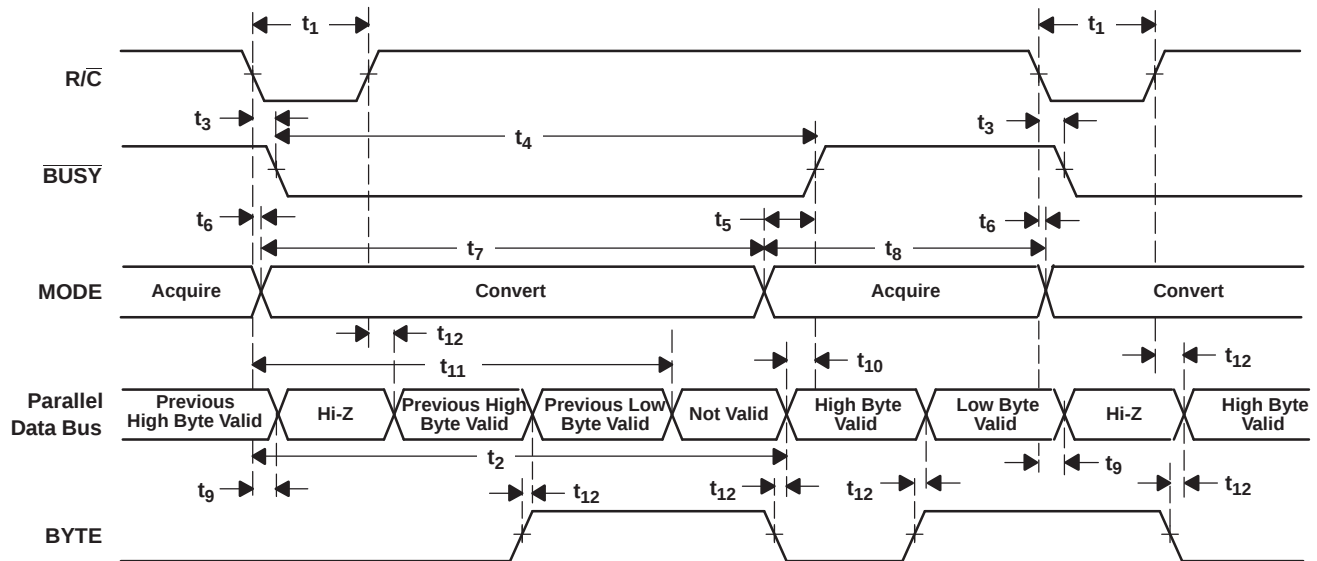
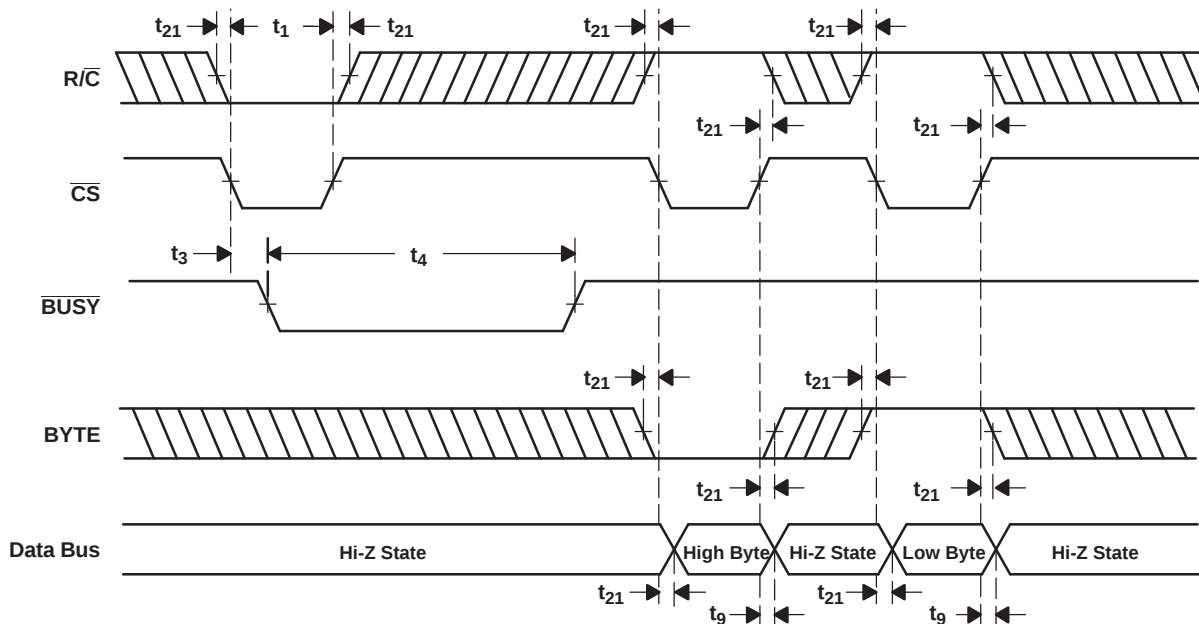

Figure 33. Conversion Timing With Parallel Output ($\overline{\text{CS}}$ and DATACLK Tied Low, EXT/INT Tied High)
Figure 34. $\overline{\text{CS}}$ to Control Conversion and Read Timing With Parallel Outputs
The ADS8506 begins tracking the input signal at the end of the conversion. Allowing 25 μ s between convert commands assures accurate acquisition of a new signal. Refer to Table 2 and Table 3 for a summary of $\overline{CS}$, $\overline{R/C}$, and $\overline{BUSY}$ states, and Figure 33, Figure 34, Figure 35, Figure 36, Figure 37, Figure 38, and Figure 39 for timing diagrams.
(1) See Figure 33 and Figure 34 for constraints on data valid from conversion $N-1$.
After conversion N is completed and the output registers have been updated, $\overline{\text{BUSY}}$ (pin 24) goes high. Valid data from conversion N is available on D7-D0 (pin 9-13 and 15-17). $\overline{\text{BUSY}}$ going high can be used to latch the data. Refer to Table 5 and Figure 33 and Figure 34 for timing specifications.
After conversion N has been initiated, valid data from conversion $N-1$ can be read and is valid up to 12 μs after the start of conversion N . Do not attempt to read data beyond 12 μs after the start of conversion N until $\overline{\text{BUSY}}$ (pin 24) goes high; this may result in reading invalid data. Refer to Table 5 and Figure 33 and Figure 34 for timing constraints.